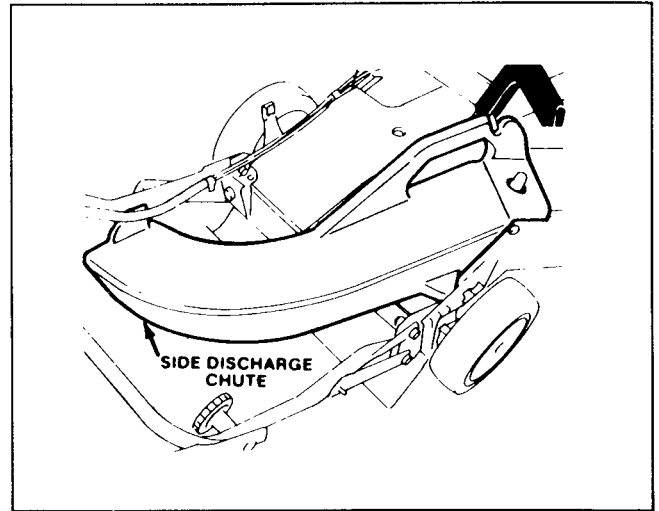

Figure 33
1. **Side Discharge Kit, Model No. 59168** – Installs in seconds. Rear mounted in place of the grass bag. Disperses clippings while trimming on both sides (Fig. 33).